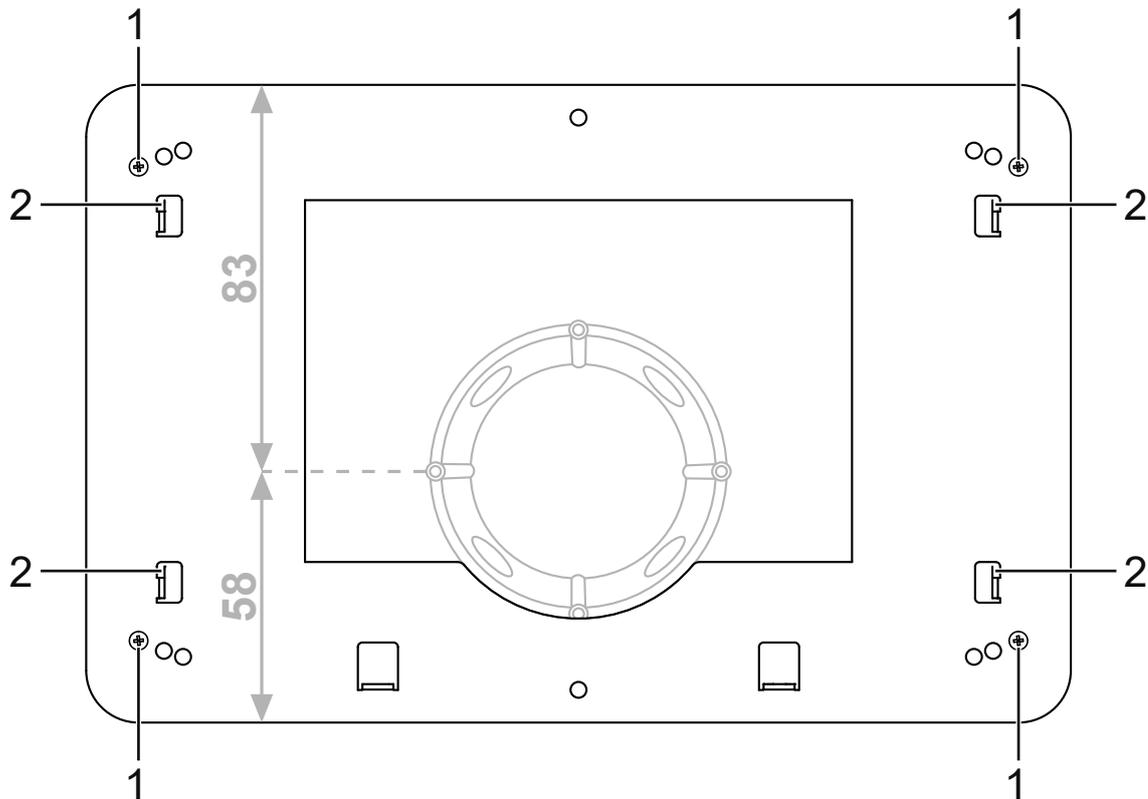
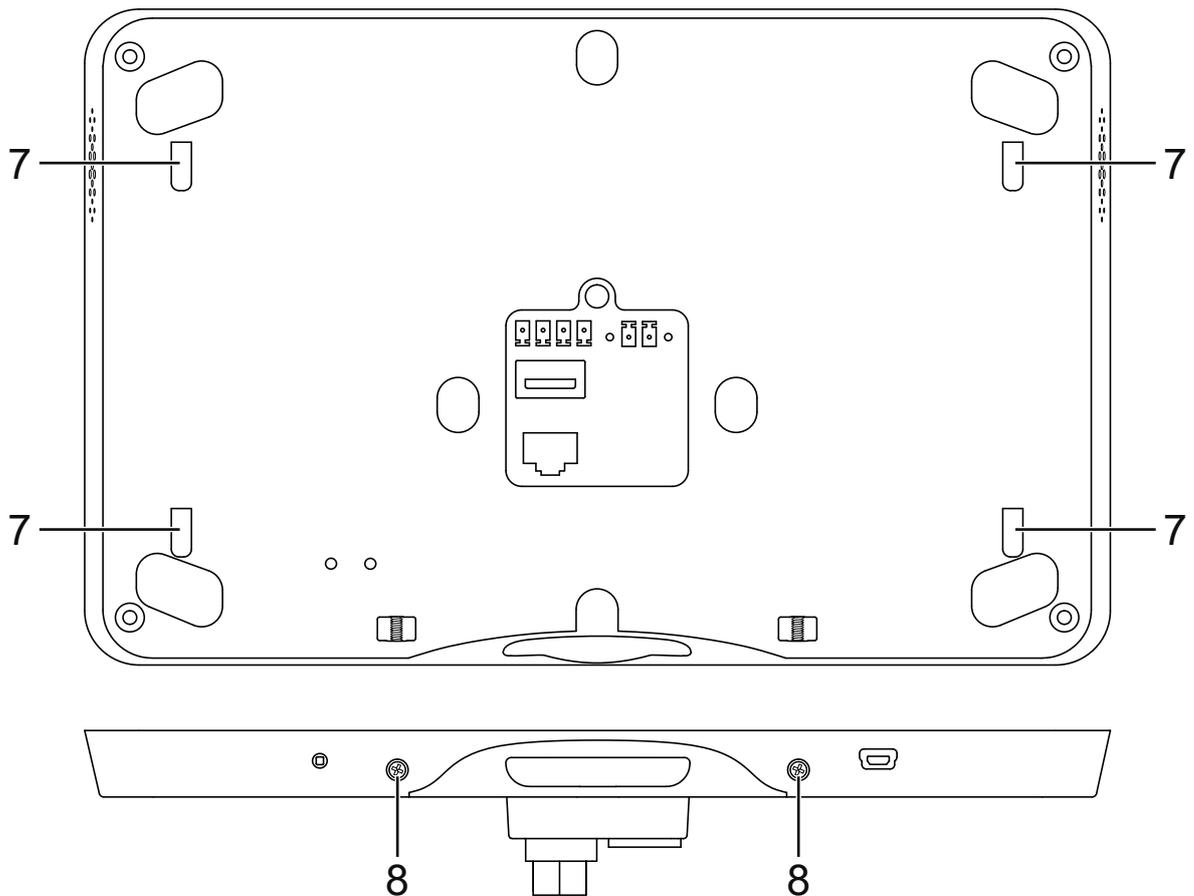

Fig. 2: Mounting the adapter
Fig. 4: Mounting of Smart Control
- Mount the adapter on the installation box with a total of four locking screws (1). (fig. 2)
- Place the openings for wall mounting (7) on the Smart Control on the fixing hooks (2) on the adapter. (fig. 2 and fig. 4)
- Fasten the Smart Control to the adapter on the underside with a total of two locking screws (8). (fig. 4)